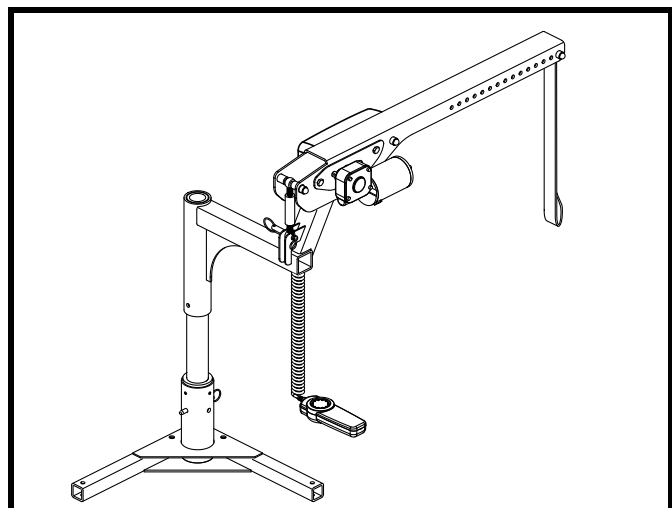

Figure 3. Optional Offset Arm
**NOTE:** If your Silver Boom 250 is equipped with an optional offset arm, follow the instructions below to make adjustments. See figure 3.